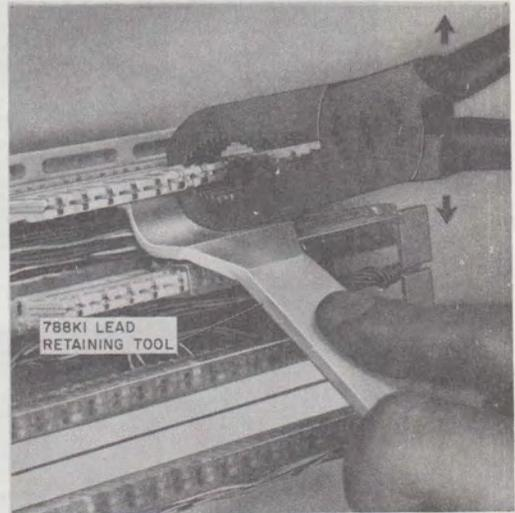

Fig. 26—788K1 Lead Retention Tool
- (1) Tag and remove the cross-connect wires from the connecting block.
- (2) Remove the designation strip from the wiring block.
- (3) Position the blade end of the 788K1 tool at the base of the connecting block over the cable pairs to retain them in the index strip while the connecting block is being removed (Fig. 26).
- (4) Using a pair of combination or side-cutting pliers, grip the 88-type connecting block firmly in the center as shown in Fig. 26, then gently pull with a slight up-and-down motion to release the connecting block from index strip. **Do not reuse connecting block.**
- (5) If the cable conductors were pulled out of the index strip on the wiring block, replace them as follows after cutting off old contact portion of wire: